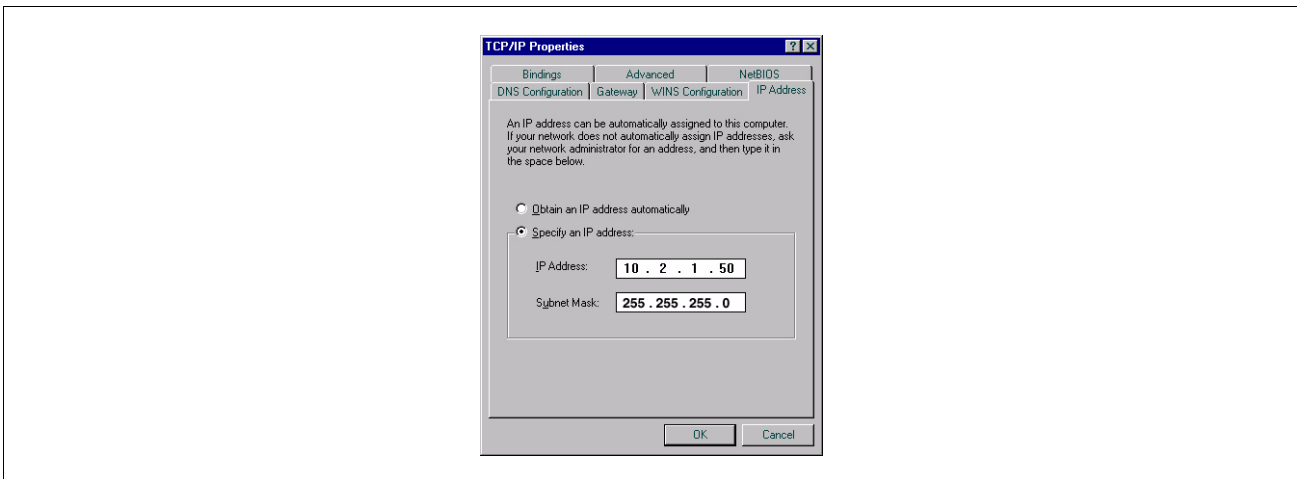

Figure 9. TCP/IP Properties dialog box
- In the 'The following network components are installed' window, highlight **TCP/IP** and then click the **Properties** button to display the TCP/IP Properties dialog box (Figure 9).
- Click the **Use the following IP Address** radio button and enter an IP Address and Subnet mask for your PC. You can use an IP address that is one digit off from the customer supplied IP Address you will assign to the console's TDIM Module. For example, if the IP Address for the TDIM Module is 10.2.1.51, you would enter 10.2.1.50 for the PC's IP Address. You also need to enter a Subnet mask. Use the same Subnet mask that is shown in Figure 9 above (255.255.255.0).
Note: Prior to reconnecting your PC to a network, you will need to select the **Obtain an IP address automatically** radio button as shown in Figure 9 above.